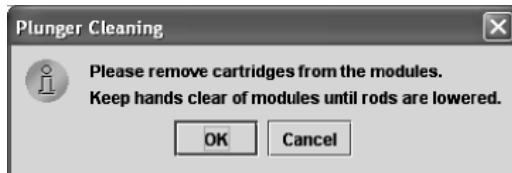

Figure 10-3. Plunger Cleaning dialog box
4. In the **Module** table, select the module you want to clean, and then click **Clean** or select **Clean All** to clean all modules simultaneously. The Plunger Cleaning dialog box appears (Figure 10-3).